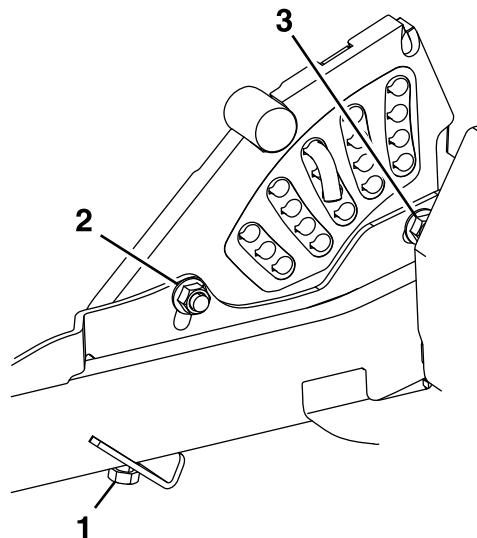

Figure 77
13. If the 4 deck adjusters do not have enough adjustment to achieve the accurate height of cut with the desired rake, you can adjust the single-point system (Figure 77).
14. To adjust the single-point system, first loosen the front and rear height-of-cut plate mounting bolts (Figure 77).
16. Tighten the 2 bolts at the bottom of the height-of-cut plate (Figure 77).